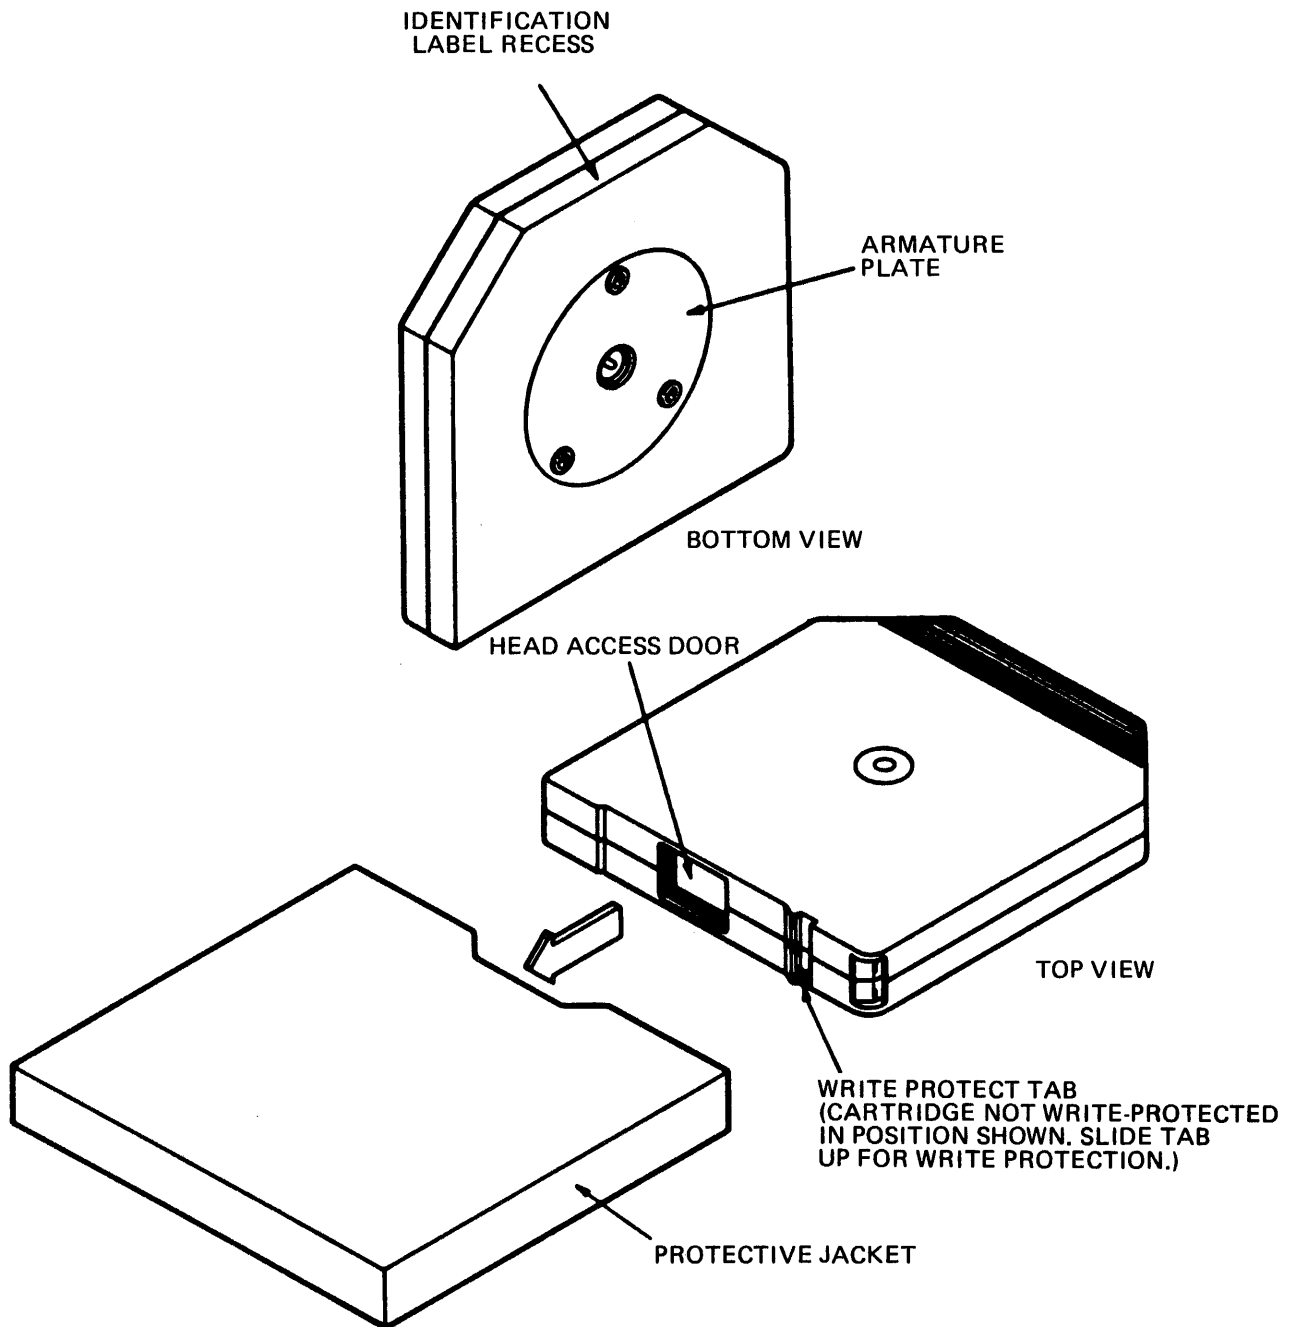

Figure H-5 Disk Cartridge Showing Protective Jacket and Write Protect Tabs
1. Prepare the disk cartridge by sliding the write protect tab to the UP position in the slot (see Figure H-5).
1. The cartridge should be stored in its protective jacket when not in the drive system (see Figure H-5).